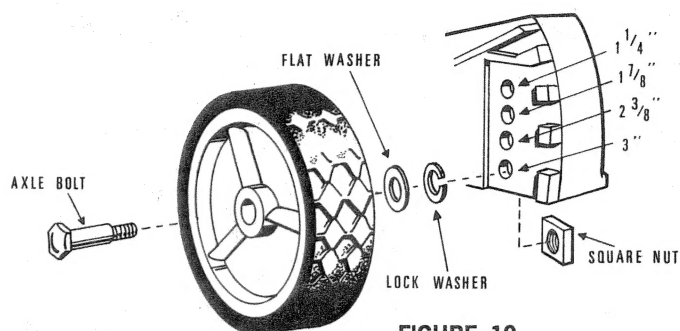

FIGURE 10
- (1) To change the cutting height on the No. 8015 Mower, first remove any one of the wheel axle bolts (Figure 10).
- (2) Select the cutting height which you want to use on your lawn and note which wheel mounting hole will give you this height (Figure 10).
- (3) Push axle bolt through wheel and put first the flat washer, then the lockwasher on the bolt threads.
- (4) Hold square nut behind selected hole and between the two ribs which keep it from turning when axle bolt is tightened. Screw bolt into nut finger tight. Then tighten bolt firmly with a wrench.
- (5) Repeat for other 3 wheels, making sure that all wheels are at the same height position.